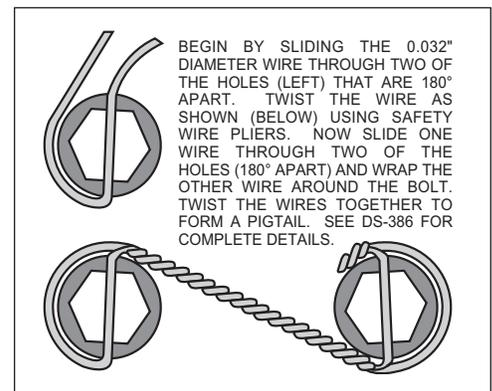

Figure 4. Safety Wire Diagram
- Apply red *Loctite*® 271 to bolt threads (3) before assembly of the caliper mounting bracket (1). Mount bracket (1) to dust face plate of spindle using washers (2) and bolts (3). Torque bolts (3) to 22 ft-lb. **NOTE:** Be sure the heads of the bracket (1) insert nuts are facing outward toward the wheel.
- Install wheel studs (4) into the hub (5). Torque to 77 ft-lb.
- Pack the large inner bearing cone (6) with high temperature disc brake bearing grease (available from your local auto parts store) and install into the backside of the hub (5). Install the grease seal (7) by pressing into the backside of the hub (5).
- Pack the small outer bearing cone (8) with high temperature disc brake bearing grease and install into front of hub (5). Slide the hub with outer bearing cone (8) onto the spindle. Secure using stock washer, adjusting nut and nut locking device. Adjust bearings per Original Equipment Manufacturer (OEM) specifications.
- Install the dust cap (10) onto the hub (5). Friction created by the o-ring (9) on the dust cap (10) keeps it from unscrewing. The O.D. of the existing spindle washer may be larger than the I.D. of the dust cap (10) not allowing it to seat against the hub face. Some grinding on the washer O.D. may be necessary to clear the I.D. of the dust cap (10).
•With the larger I.D. side of the rotor (11) facing away from the hat (12), bolt rotor (11) to hat (12) using washers (13) and bolts (14). Torque bolts (14) to 85 **in-lb**. Safety wire bolts (14) using standard 0.032 inch diameter stainless steel safety wire as shown in Figure 4. Please refer to Wilwood's data sheet DS-386 (available at [www.wilwood.org/ds386.pdf](http://www.wilwood.org/ds386.pdf)) for complete safety wire installation instructions.
•**NOTE:** Please reference the caution statement at the beginning of the assembly instructions. With the bleed screws pointing up, mount the caliper (16) onto the caliper bracket (1) with the flat washers (17), lock washers (18), bolts (19) and caliper spacer (15) positioned between caliper and bracket. Finger tighten. View the rotor (11) through the top opening of the caliper (16). The rotor (11) should be aligned in the center of the caliper (16). If not, adjust the caliper (16) by using 0.032 inch thick shims (20) placed between the caliper spacer (15) and the caliper (16). Finger tighten and recheck alignment. Apply red *Loctite*® 271 to bolt threads (19) and torque to 47 ft-lb. Safety wire caliper bolts (19).